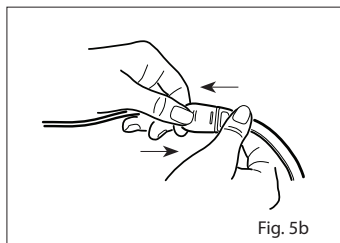

Fig. 5b
2. Refer to Fig. 5b. Insert the sensor tab into the patient cable until there is a tactile or audible click of connection. Gently tug on the connectors to ensure a positive contact. Tape may be used to secure the cable to the patient for ease of movement.